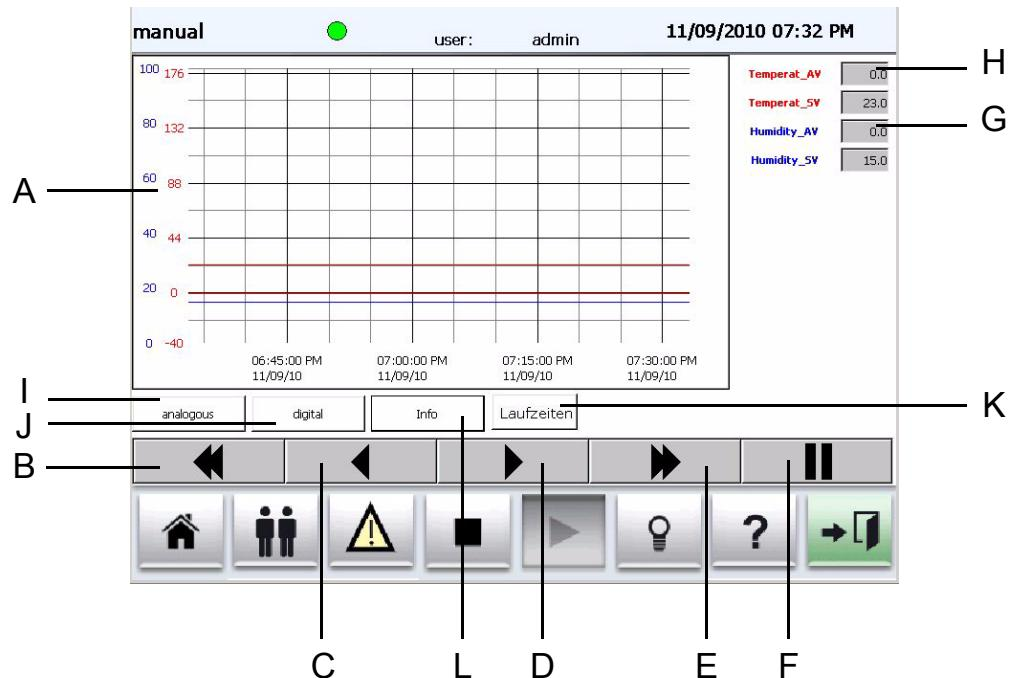

Fig. 2-4
- refer to chapter 2.4 , Fig. 2-4 (page 8)